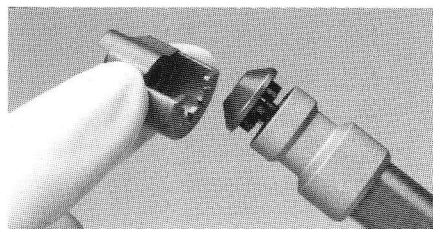

Figure 13
2. Insert the oscillating saw adaptor (P/N 2296-3-402) (oriented in the desired direction) so that the slots of the adaptor fit over the fins on the handpiece. See Figure 13.